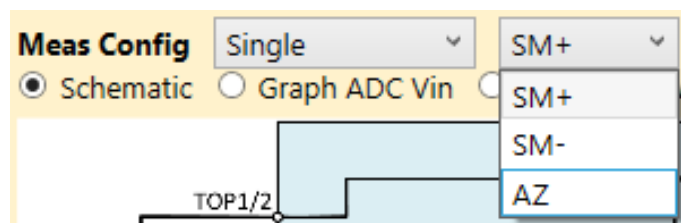

Figure 71. Meas Config: Single
- Single: single measurement (see Figure 71)